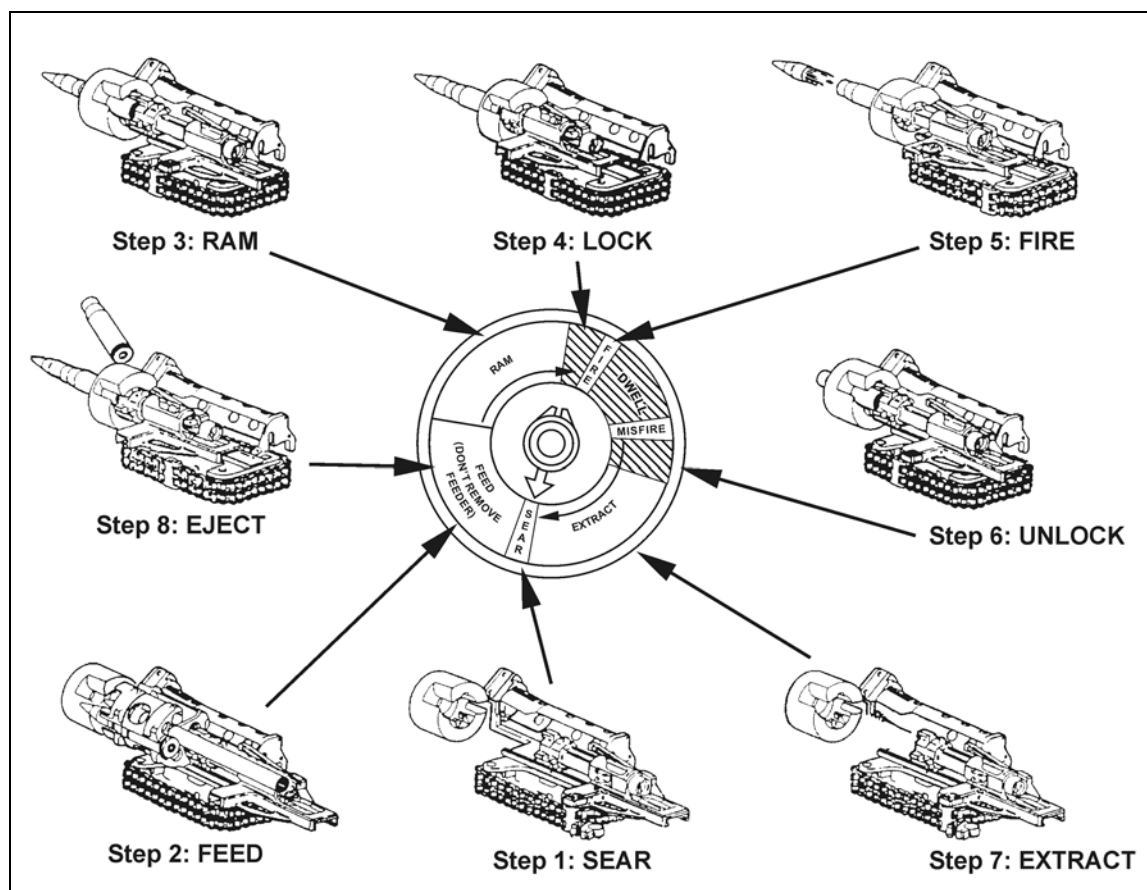

Figure 2-3. The M242 25-mm gun's eight cycles of function.
b. **Cycles of Function.** The 25-mm automatic gun has eight cycles of function that relate to the bolt position indicator (Figure 2-3, page 2-4). The BPI shows the crew where the bolt is located the whole time the gun moves through its eight cycles of function: